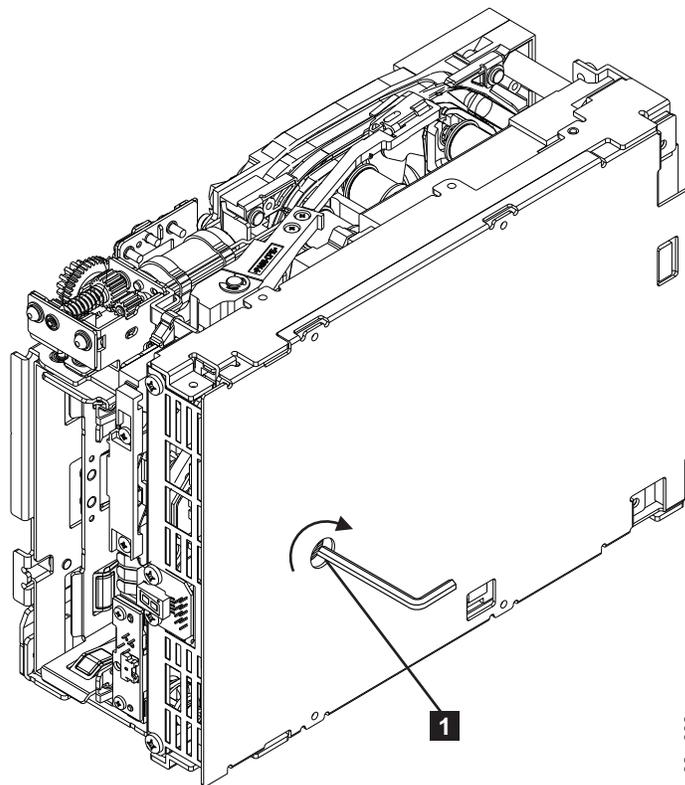

Figure E-9. Using hex wrench to rewind tape into cartridge
7. From the bottom of the drive, locate the access hole ( **1** in Figure E-9) in the bottom cover. Insert a 2.5 mm offset hex wrench through the bottom cover access hole and into the reel motor axle. begin spooling tape back into the cartridge by turning the hex wrench clockwise.